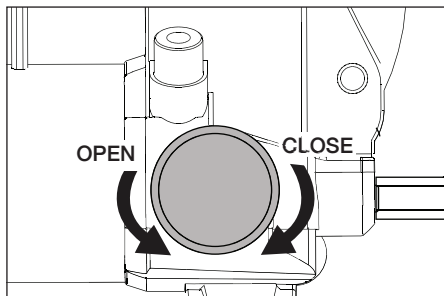

Figure 8, Release Valve
1. Close the release valve by turning knob clockwise until it stops. See Figure 8.